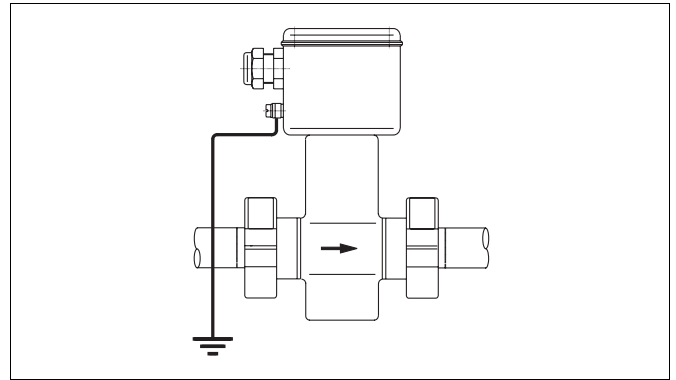
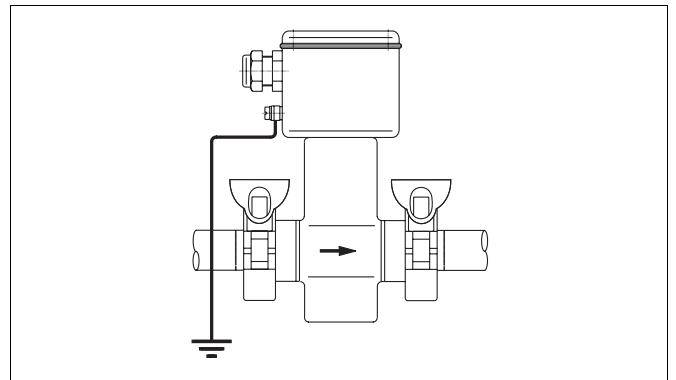

Fig. 22 Flowmeter Primary 1/10" – 4 : DN 3 – 100, Aseptic Connections
Fig. 23 Flowmeter Primary 1/10" – 4 : DN 3 – 100, Tri-Clamp Connections
- For instrument designs with aseptic connectors, Tri-Clamps and weld stubs, the meter tube is in electrical contact with the fluid. It is only necessary to connect the ground connection on the flowmeter primary to ground, see Fig. 22 and Fig. 23.
- 4) Connect a 4 mm^2 CU wire between the ground connection on the flowmeter primary and the potential equalization (PA).